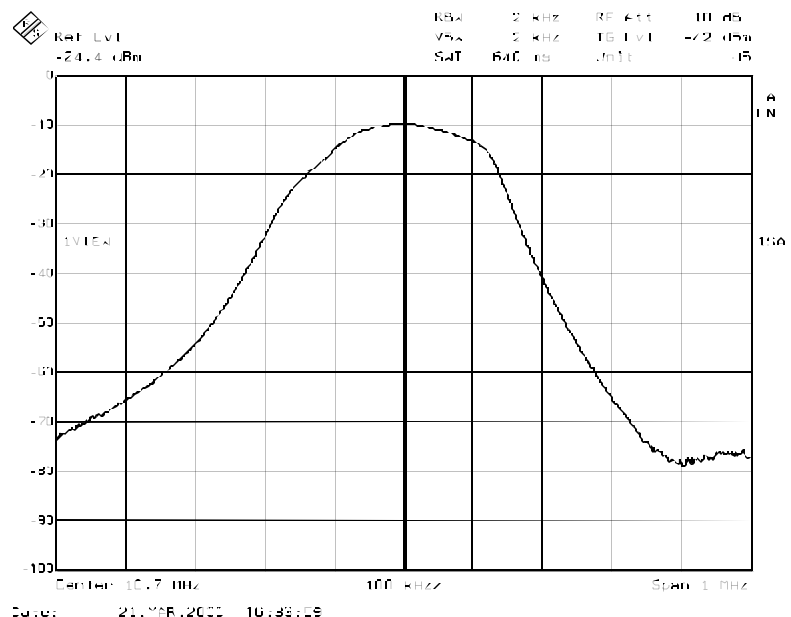

Fig.8 AM 1st IF selectivity
The 1st IF-freq. (filtered with ceramic filter of 10.7MHz, common used with FM-IF) is mixed down to 450kHz, a standard frequency where a low priced filter takes care for channel selectivity before detection takes place. The image frequencies 2 and 3 are caused by this 2nd mixing, as the VCO has transferred these image frequencies to 9.8MHz (here called IF2_image). This 9.8 MHz will be mixed to 450kHz by the 2nd mixer and therefor 9.8 MHz has to be suppressed in the 10.7MHz 1st IF filter. *Suppression at 9.8MHz in a first IF selectivity acc. to Fig. 8 is about 65dB.*
- **The 1st IF-filter**, symmetrical at the mixer-output, pins 18/19, is a tuned LC circuit with a ceramic 10.7MHz filter, common used with FM, having behaviour as shown in Fig.8.